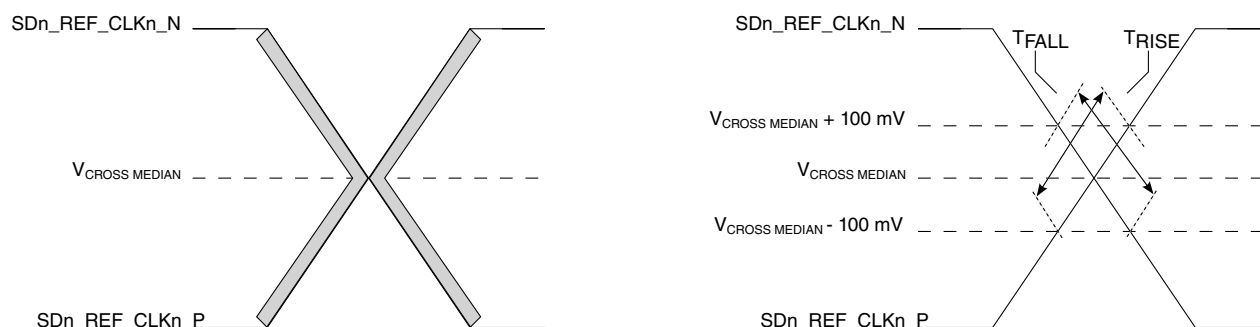

Figure 37. Single-ended measurement points for rise and fall time matching
11. Matching applies to rising edge for SDn_REF_CLKn_P and falling edge rate for SDn_REF_CLKn_N. It is measured using a 200 mV window centered on the median cross point where SDn_REF_CLKn_P rising meets SDn_REF_CLKn_N falling. The median cross point is used to calculate the voltage thresholds that the oscilloscope uses for the edge rate calculations. The rise edge rate of SDn_REF_CLKn_P must be compared to the fall edge rate of SDn_REF_CLKn_N, the maximum allowed difference should not exceed 20% of the slowest edge rate. See Figure 37 .